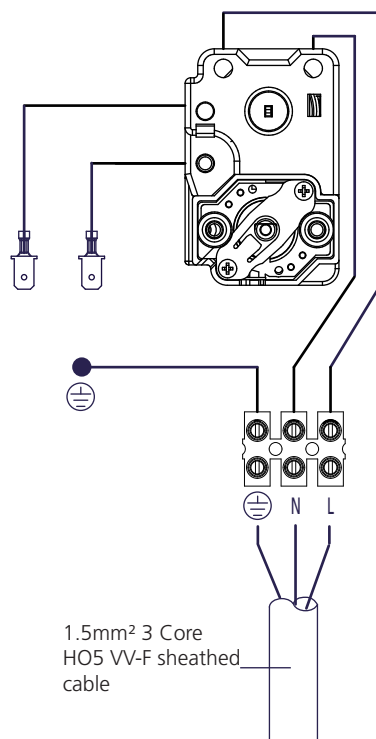

Figure 13: Wiring schematic - DIRECT models
- ▶ The immersion heater(s) should be wired in accordance with Fig 13. The immersion heater(s) MUST be earthed. The supply cable should be a minimum 1.5mm² 3 core HO5 VV-F sheathed cable and must be routed through the cable entry ports provided with the outer sheath of the cable firmly secured using the cable securing bar provided.